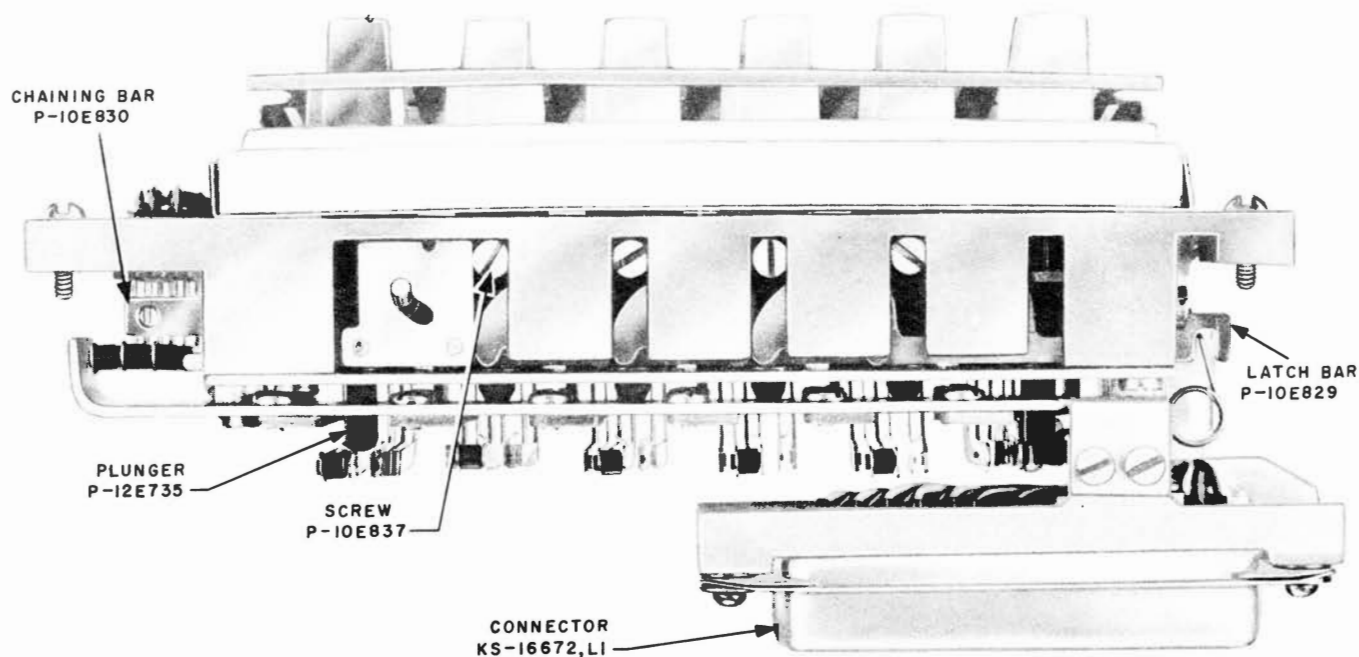

Fig. 5 - 599B Key
**3.06** The 599B key module (see Fig. 5) is the same design as the 599A key with the following exceptions: